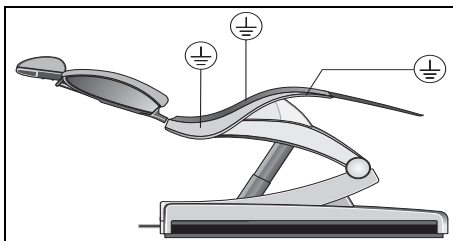

Fig. 3-6 Measurement points below the seat upholstery
- elevation frame and seat support below the seat upholstery (Figure 3-6)
- backrest support (Figure 3-6)